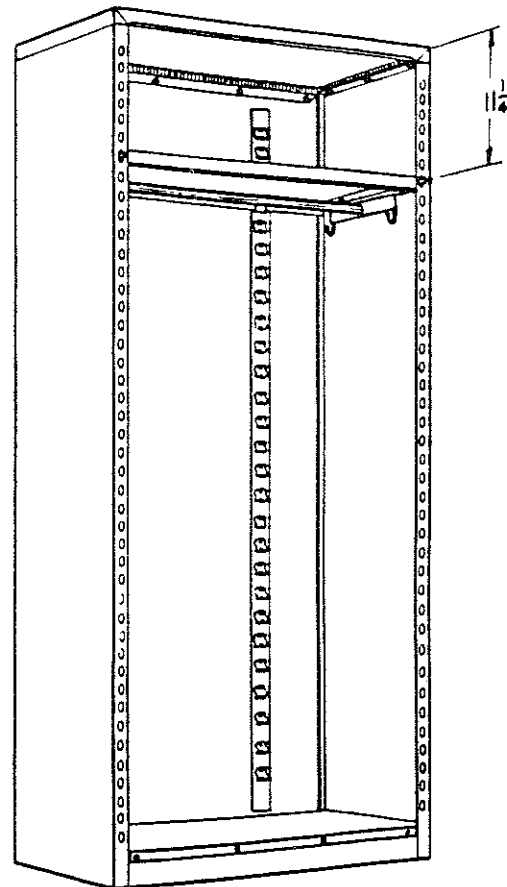

FIG. 8
4. INSTALL SHELF ASSEMBLY INTO CABINET. SEE FIGS. 8 & 10.